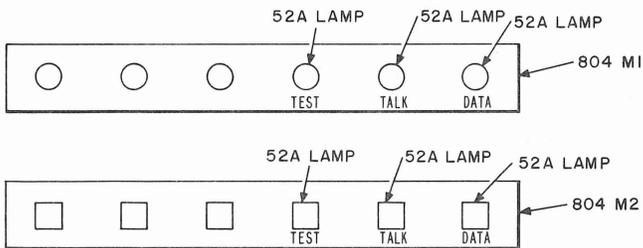

Fig. 6—Data Auxiliary Set Key Unit Designations
2.02 Both data auxiliary sets contain a six-button key unit. Three of the buttons have designated functions and are illustrated by Fig. 6. Table C lists their functions. The three remaining buttons are spare buttons and may be utilized as various station arrangements require them.